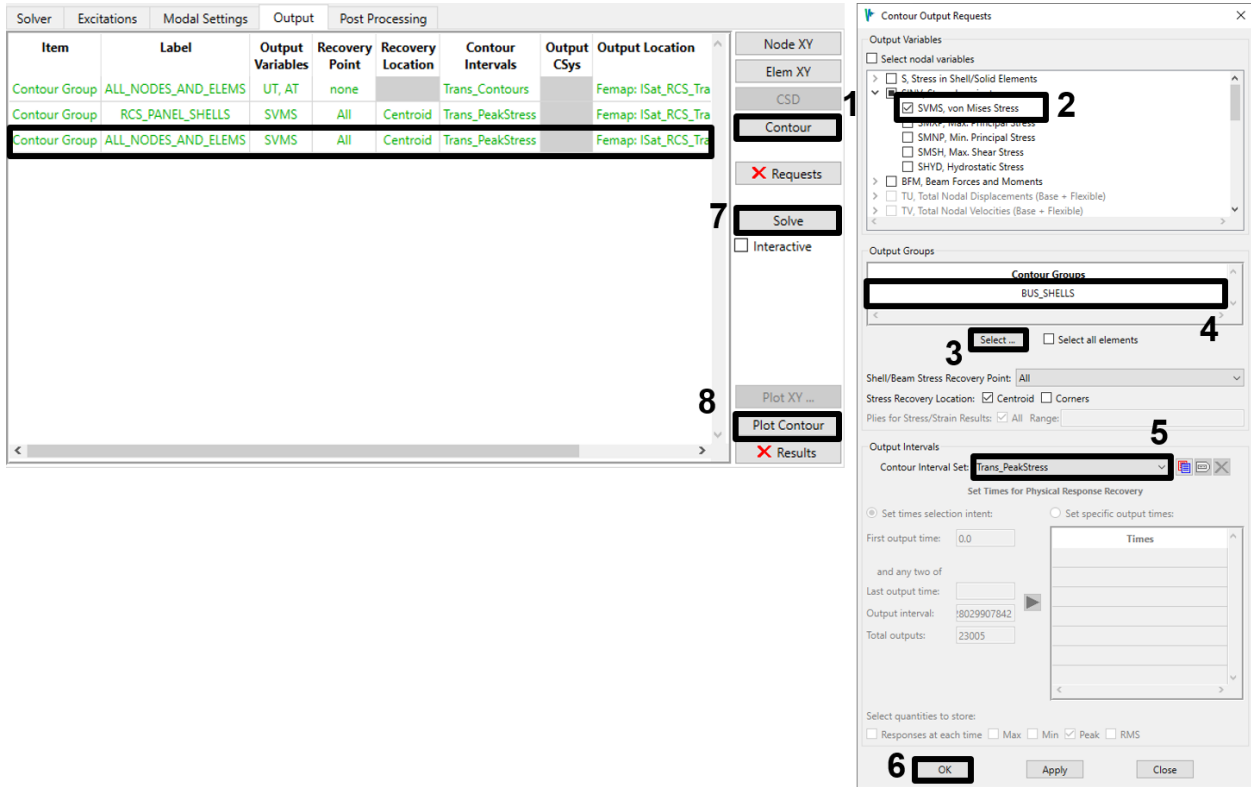
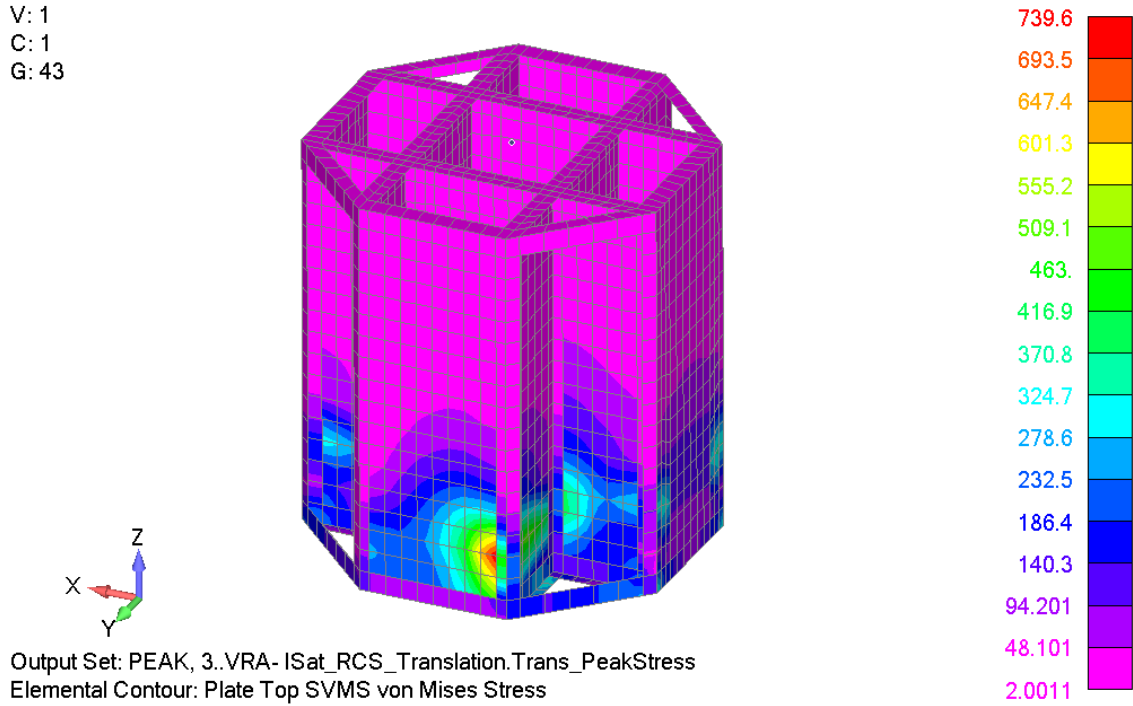

Figure 4-106. Select the BUS\_SHELLS contour request and plot its results.
Figure 4-107. Von Mises results with only the BUS\_SHELLS group displayed.
11. There appears to be a significant stress concentration where the instrumentation package support attaches to the bus. Create a contour request for the peak stresses in the BUS\_SHELLS group with the same settings used for the RCS panels. Solve this new request, then select it in the table and click **Plot Contour** again (Figure 4-106). This time, display only the BUS\_SHELLS group in the contour plot (Figure 4-107). There is indeed a stress concentration, and the stress is nearly seven times higher than in the RCS panels.